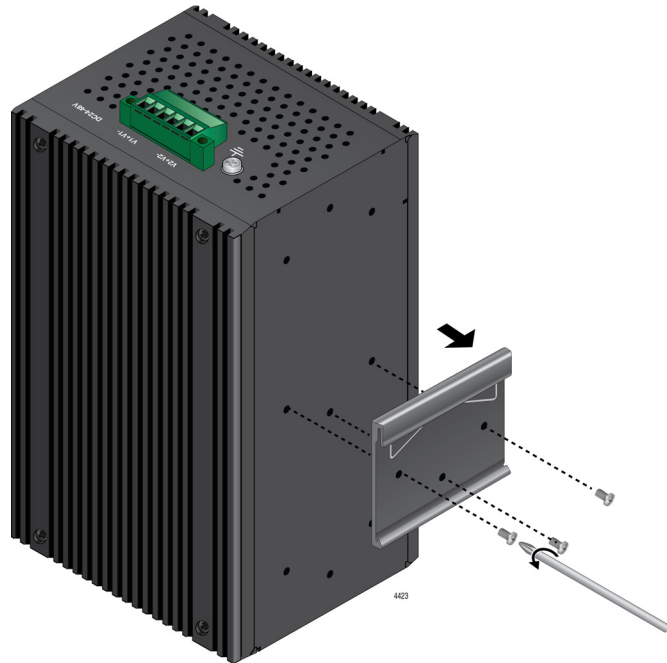

Figure 17. Remove Din Rail Mounting Bracket
2. Remove DIN rail mounting bracket that is factory-installed on the back panel of the switch. Refer to Figure 17 on page 57.